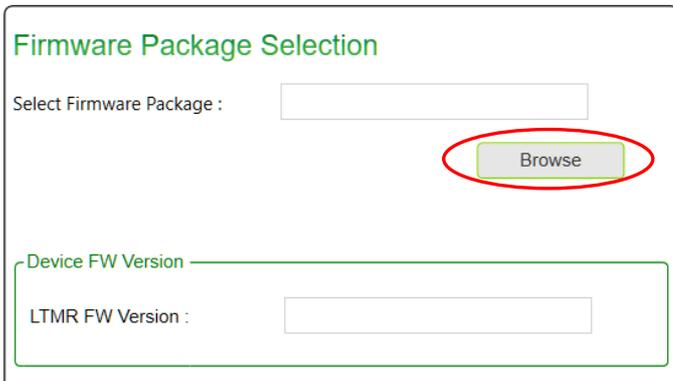

Figure 19
5. In the “Firmware Package Selection” field, click the “Browse” button, as in Figure 19, and navigate to the unzipped Tesys T firmware file, as in Figure 20. Open the file corresponding to the desired firmware, and verify that the correct version has appeared in the Device FW Version field, as in Figure 21.